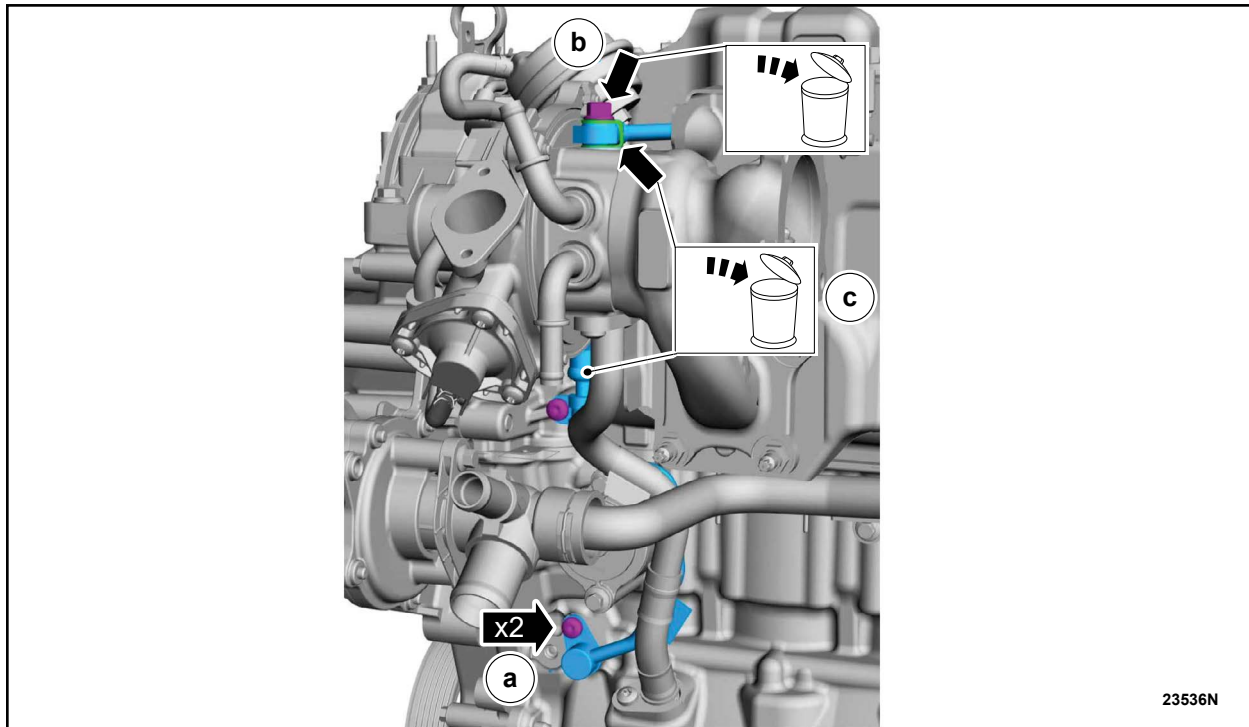

FIGURE 16
22. Remove and discard the oil supply tube and washers. See Figure 16.